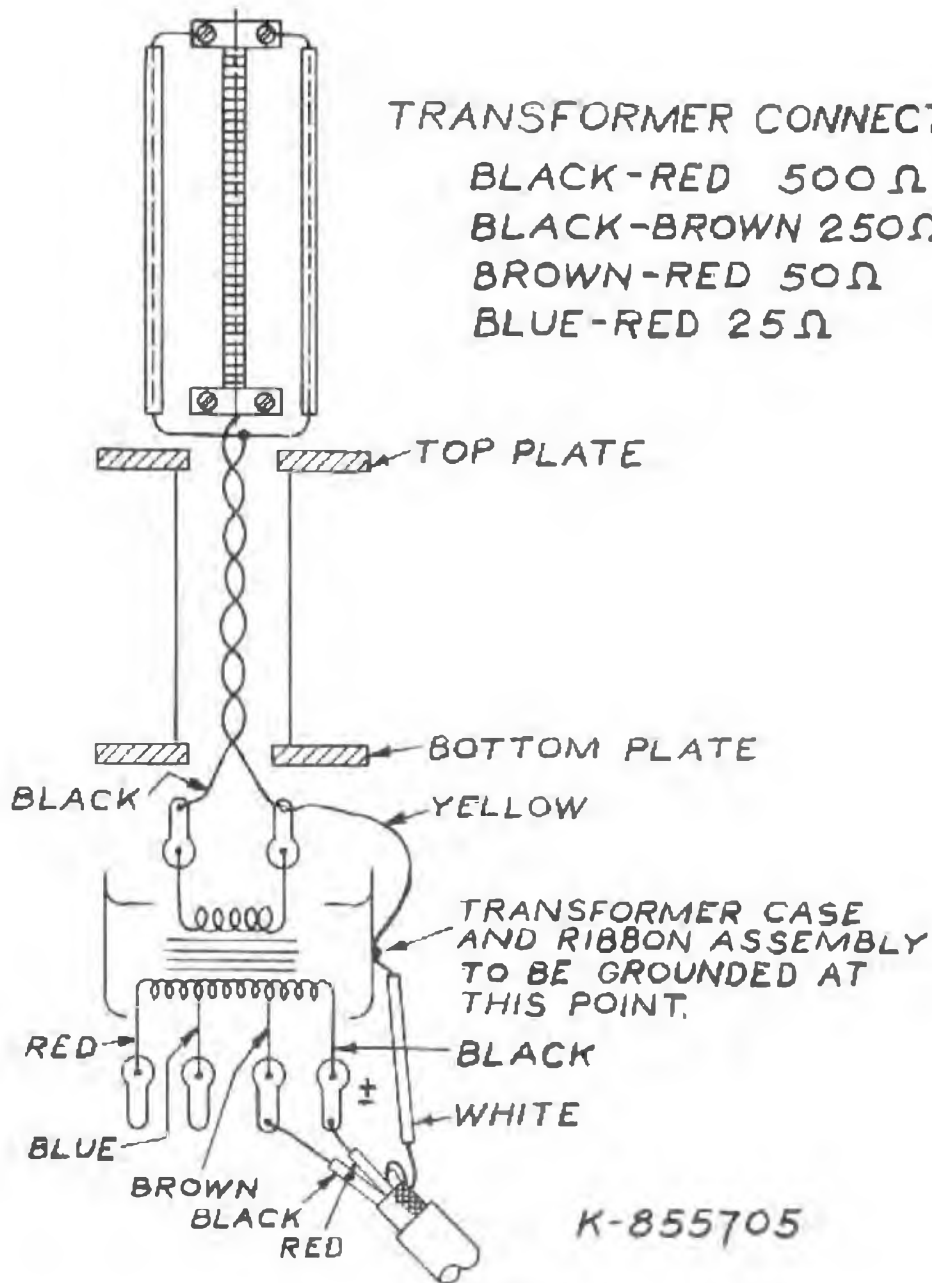

FIGURE 3 - MICROPHONE CIRCUIT
**CABLE CONNECTIONS** - The microphone is shipped connected for 250 ohms output. Transformer connections for 500 and 50 ohm outputs are shown in Figure 3. The terminal board is made accessible by removing the hemispherical bottom shell.
(See curve Figure 3)